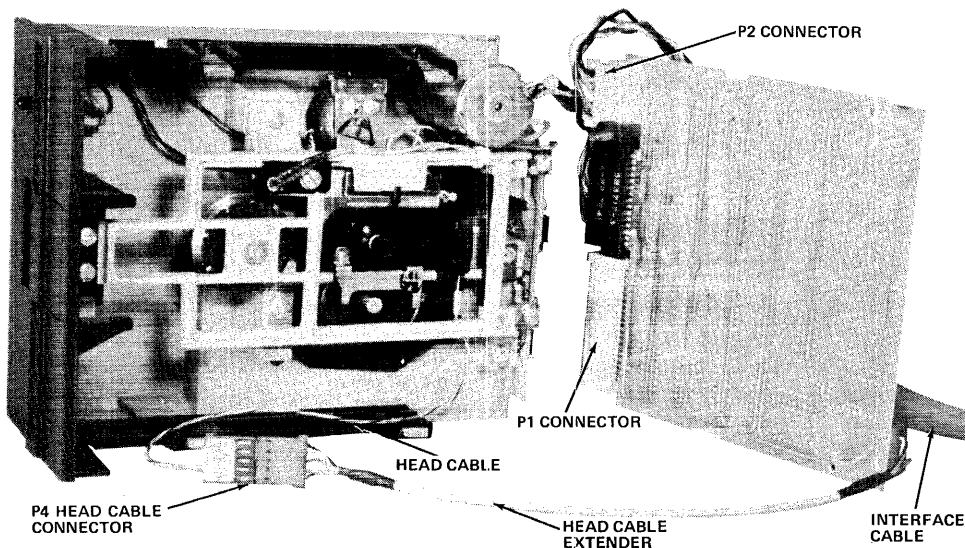

FIGURE 9. SA400 SERVICE POSITION
- a. Remove the PCB and install the head cable extender. Leave the PCB and interface connectors installed. Reference figure 9.